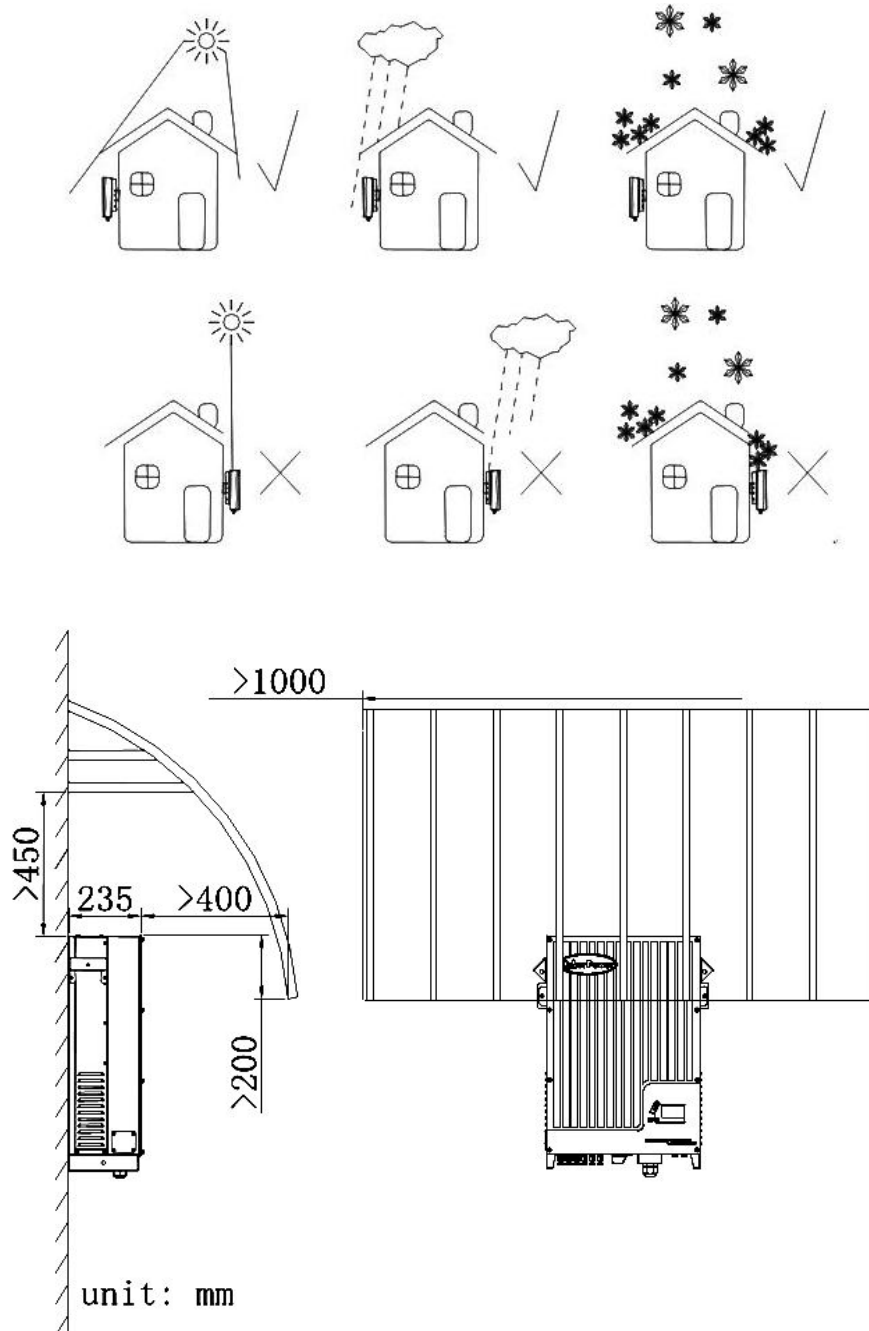

Fig. 5.8
- Recommend awning installation, the purpose is to extend the inverter service life and reduce the power derating of the inverter. The dimension of the awning refer to Fig5.8.